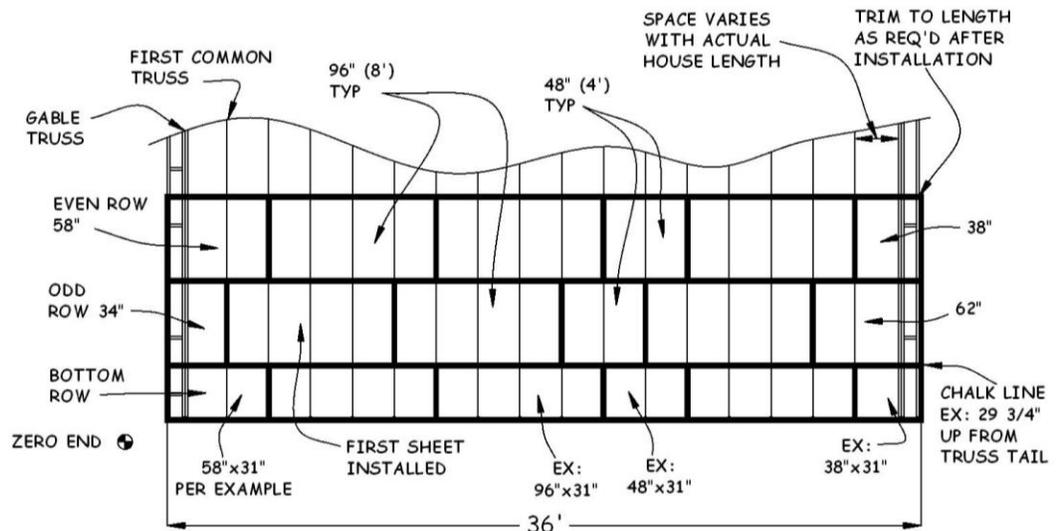
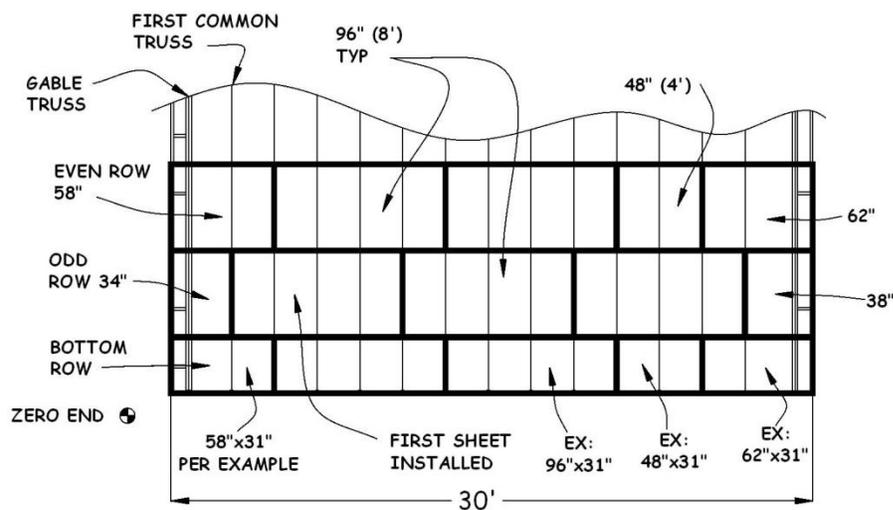

Figure 7-2. OSB Layout for 36' Roof.
Figure 7-3. OSB Layout for 30' Roof.
1. Refer to Figures 7-2 and 7-3, below, which show examples of the roof sheathing layout for a 36' and 30' long roof, respectively. Note that each **odd** row has a **34" piece** at the zero end, and each **even** row has a **58" piece** on the zero end. Also, note that the **bottom row** is not full-width. The size of these **bottom row** pieces will be determined in Section 7.4.2.
4. Place two 34" and two 58" pieces on each eave side of the house at the zero end, and two each of the 38" and 62" pieces on each eave side of the non-zero end. There are typically 4 rows of sheathing on each side of the house, or 8 rows total. As shown in Figures 7-2, 7-3, and Table 7-1, the 62" and 38" pieces are used on the non-zero end, but not necessarily in the same row as its corresponding cutoff.
- Depending on the length of the house, a 4' piece may also be needed in the middle of the row to reduce scrap and to maintain the stagger of the joints between sheets. In the 36' example in Figure 7-2, a 4' piece is required in each row. Figure 7-3 shows a 4' piece in even rows only. Referring to "Total # of 4s" in Table 7-1, determine the number of 4' pieces required. Cut full-width sheets in half to obtain the required number, label with the size, and place half of them on each eave side of the house near the middle.
- Roof sheathing is installed with a 1¼" overhang past the truss tails. At the peak, a 2" opening is required for adequate attic ventilation. Any non-full-width row must be located at the bottom of the roof so the sub-fascia can provide adequate support. The following describes how to determine the number of rows of full-width (FW) sheets, the width of the bottom row, and the location of the chalk line to mark the bottom of the first FW row.